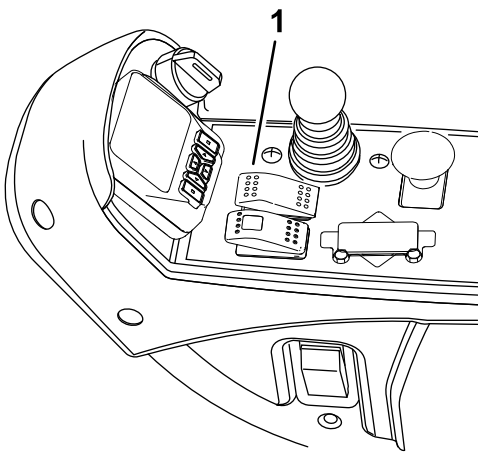
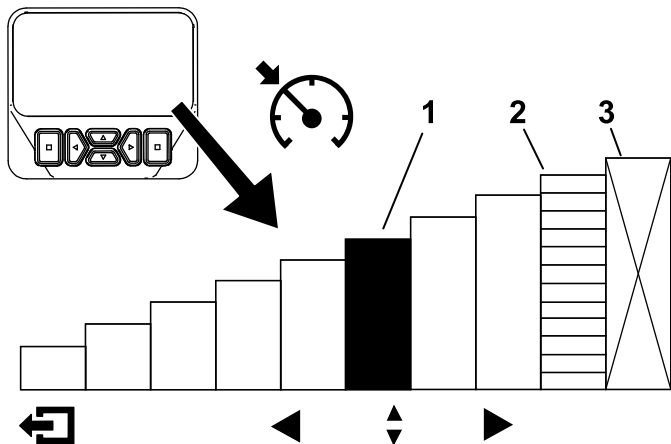

Figure 30
Figure 31
After the cruise control switch is enabled and the speed is set (Figure 30), use the InfoCenter to adjust the speed setting of the cruise control (Figure 30 and Figure 31).
1. Enable the cruise control switch on the console (Figure 30).
2. Use the InfoCenter display to adjust the speed setting of the cruise control (Figure 31).